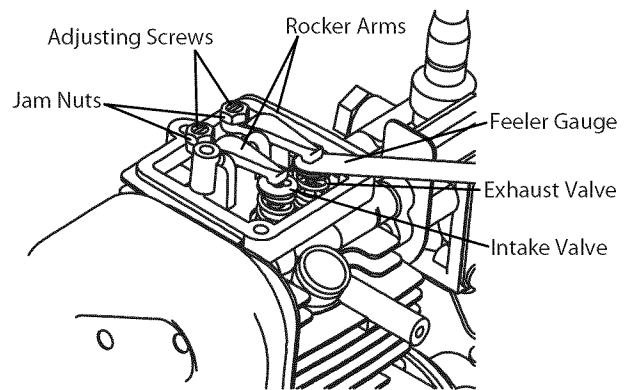

Fig. 24
9. Slide a feeler gage between the rocker arm and the valve return spring. Measure the distance between the rocker arm and valve stem (Fig. 24). Take care to only measure the free play. It is very easy to insert too thick a feeler gauge and accidentally depress the valve and spring. Measure both the intake and exhaust valve clearances.